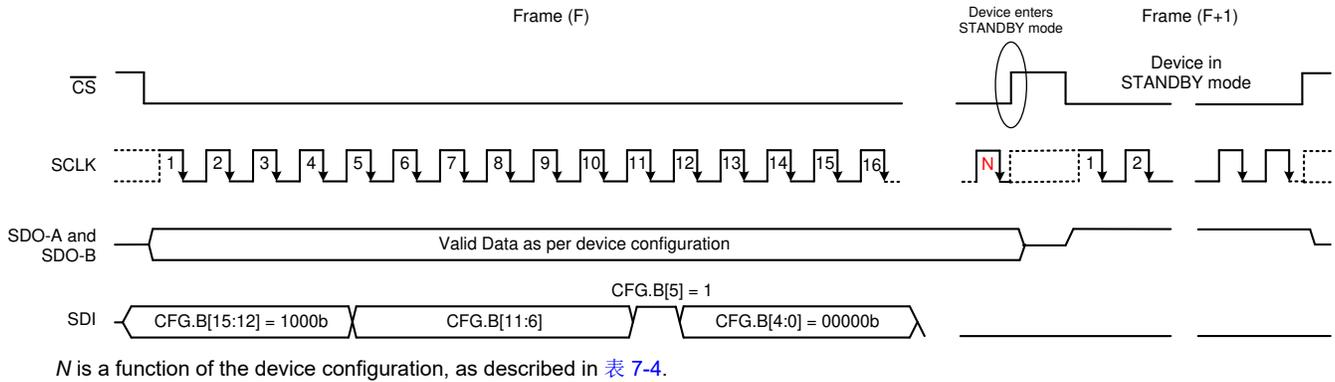

图 7-8. Enter STANDBY Mode
As shown in 图 7-8, a valid write operation in frame (F) programs the configuration register with B5 set to 1 (CFR.B5 = 1) and places the device into a STANDBY mode of operation on the following \overline{CS} rising edge. While in STANDBY mode, SDO_A and SDO_B output all 1s when \overline{CS} is low and remain in 3-state when \overline{CS} is high.